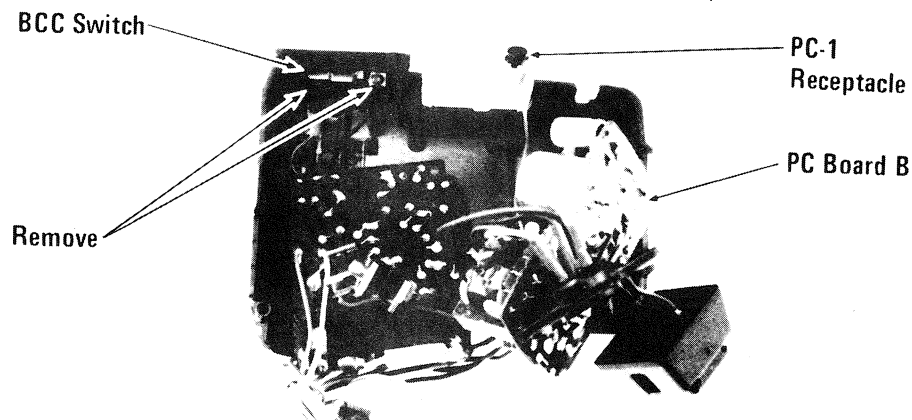

Figure 3-11. Further Disassembly
- O. Detach BCC (bounce compensator circuit) switch by removing two screws. Slide PC-1 receptacle up and out of compartment. Lay body case LA aside. Fig. 3-11.